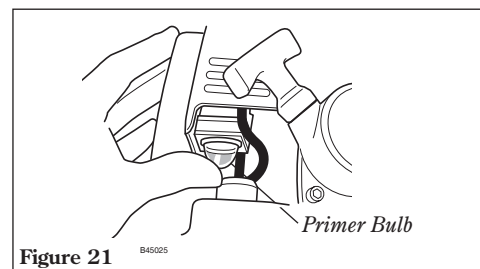

Figure 21
3. Prime the engine by repeatedly depressing the carburetor primer bulb until fuel can be seen flowing through the transparent overflow return tube. See Figure 21.